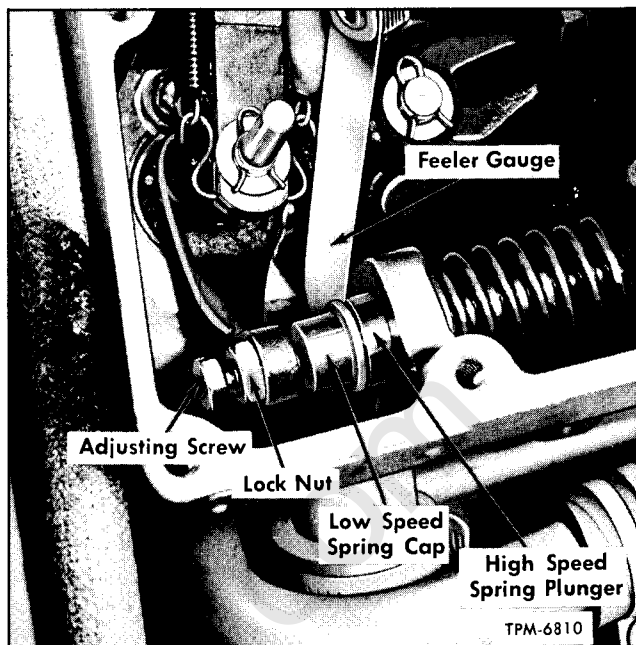

Figure 4—Low Speed Spring Gap Adjustment (Typical)
7. With engine running at specified rpm, measure gap between low speed spring cap and plunger (fig. 4). If there is not a slight drag on a 0.0015" feeler gauge loosen lock nut and turn adjusting screw until desired gap is obtained, then tighten lock nut. Recheck gap after tightening lock nut.